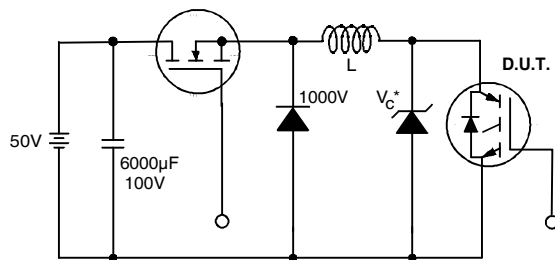

Figure 19. Clamped Inductive Load Test Circuit
- ② $V_{CC}=80\%(V_{CES})$, $V_{GE}=20V$, $L=10\mu H$, $R_G = 50\Omega$ (figure 19)
- ③ Pulse width $\leq 80\mu s$; duty factor $\leq 0.1\%$.
- ④ Pulse width $5.0\mu s$, single shot.